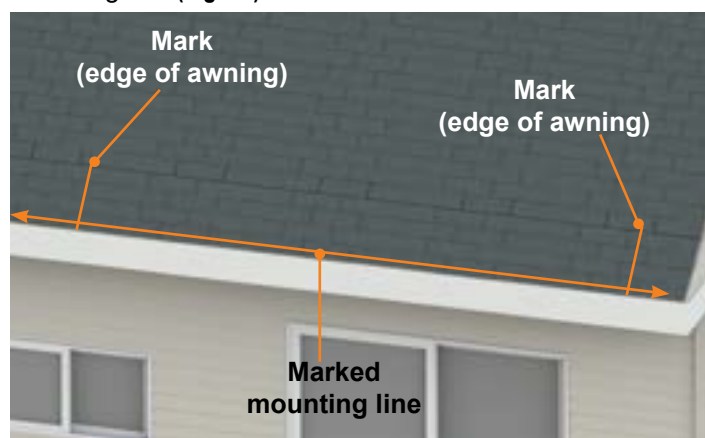

Fig.46
10. Mark the left and right ends of the awning on the mounting line (Fig. 46).